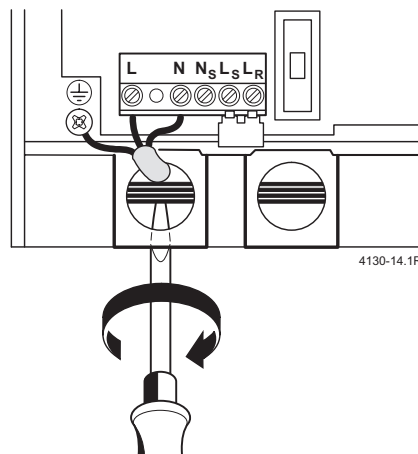

Fig. 27
- ▶ Feed cable through cable grommet and connect the mains supply cable, see Fig. 27.